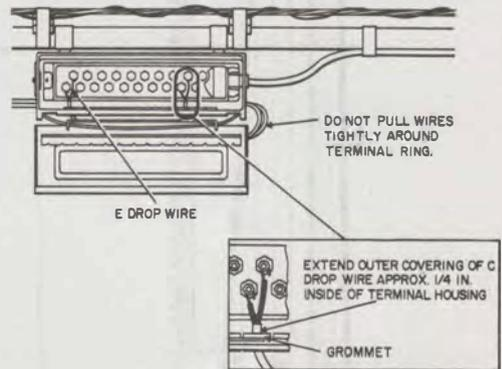

Fig. 19—Terminating Wires at Terminals
3.03 Insert the wire through the wire entrance hole and terminate it on the binding post so that the end of the insulation is about 1/8 inch from the washers. The outer covering of the drop wires should extend at least 1/4 inch inside the terminal housing. See Fig. 19.